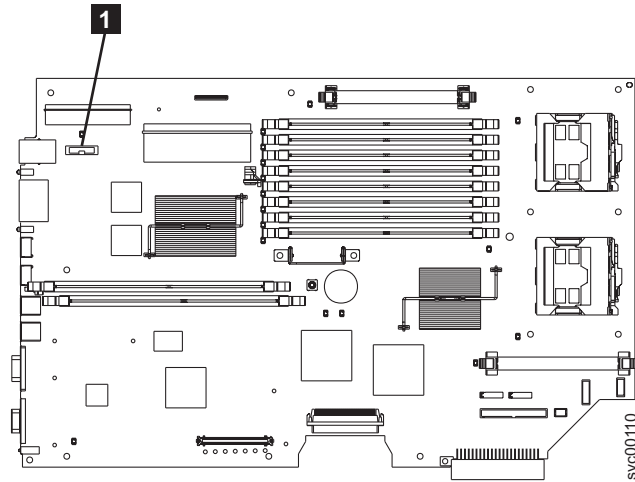

Figure 99. Location of the CMOS battery on the SAN Volume Controller 2145-8F2
1. Insert the new battery in the battery socket **1**. See Figure 99 on page 317.